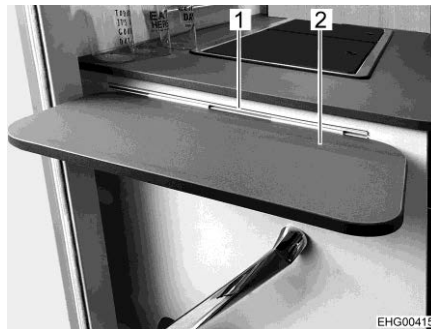

Fig. 12 Kitchen extension board
- ▶ In the event of an accident or emergency braking, the kitchen extension board could injure the occupants of the vehicle. Before setting off, detach kitchen extension board (Fig. 12,2) from the rail (Fig. 12,1) and store securely.